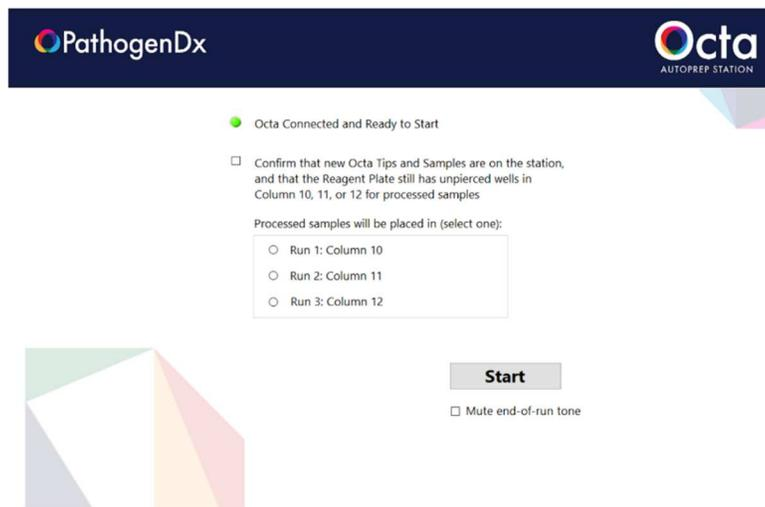

Figure 14: Octa AutoPrep Station User Interface
3. Confirm that the Consumables Tray with OctaTips and Prefilled Reagent Plate, as well as your samples in the Heater Strip are in place by checking the box in the software, then press 'Start', as shown on the starting screen in Figure 14.